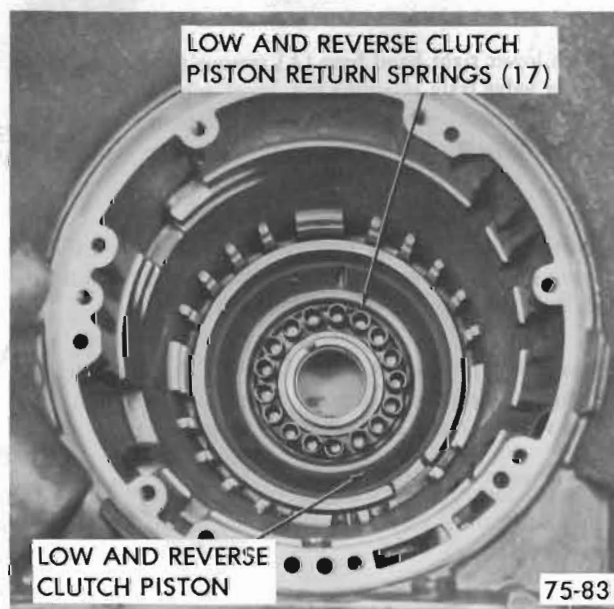

Figure 75-225
4. Install seventeen (17) piston return (coil) springs. See Figure 75-225.